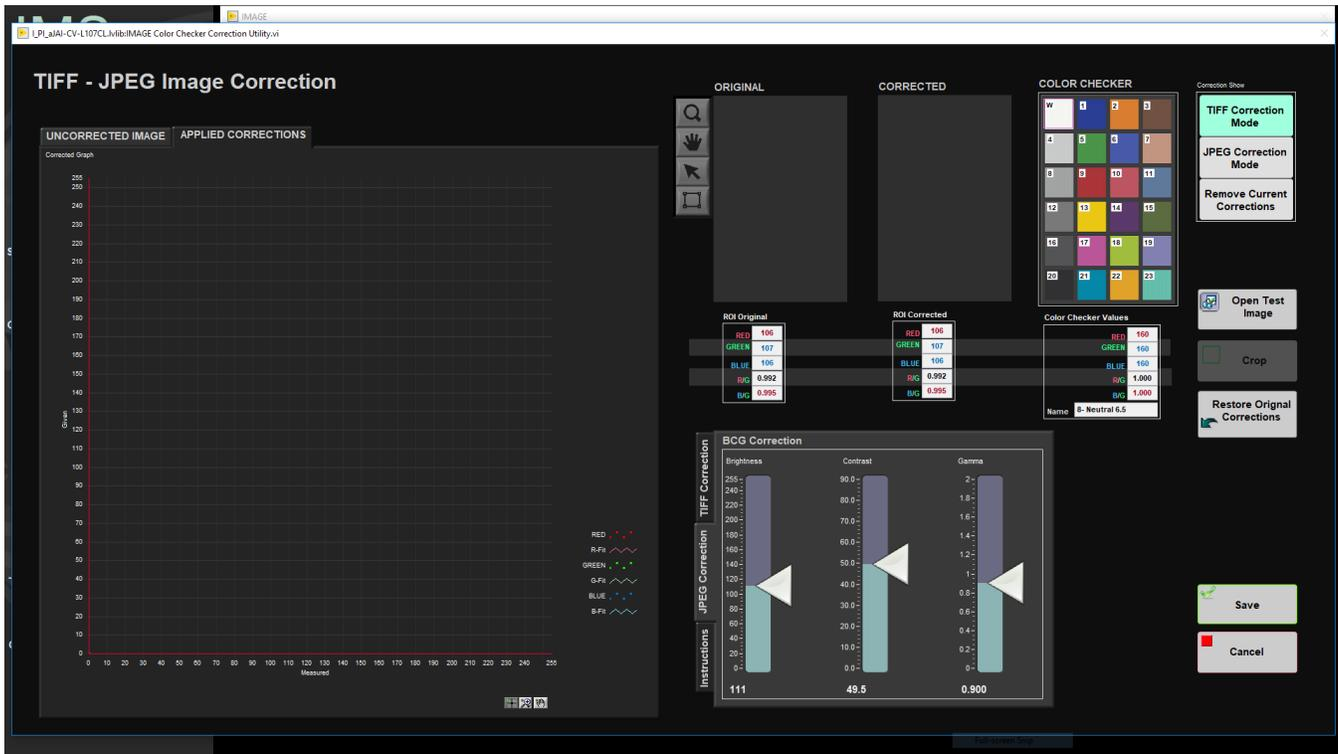

Figure 43. Main Image Correction Window
7. The main window opens (Figure 43).